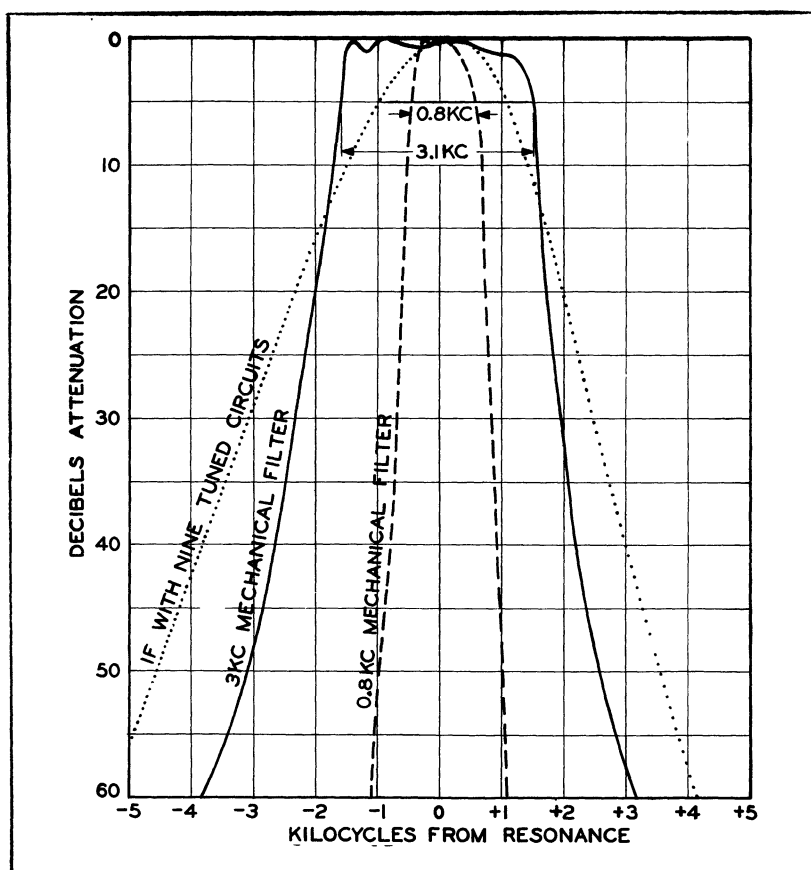

Figure 1-3. 75A-3
(1) SELECTIVITY.
- (a) With 3-kc filter approx. 3 kc at 6 db down and 6.5 kc at 60 db down (see typical curve, Figure 1-3).
(2) SENSITIVITY 2 uv for signal-to-noise ratio of 6 db.
(3) STABILITY.
(4) IMAGE REJECTION at least 50 db.
(5) AVC constant audio output within 6 db for r-f input change of 5 uv to 0.5 v.